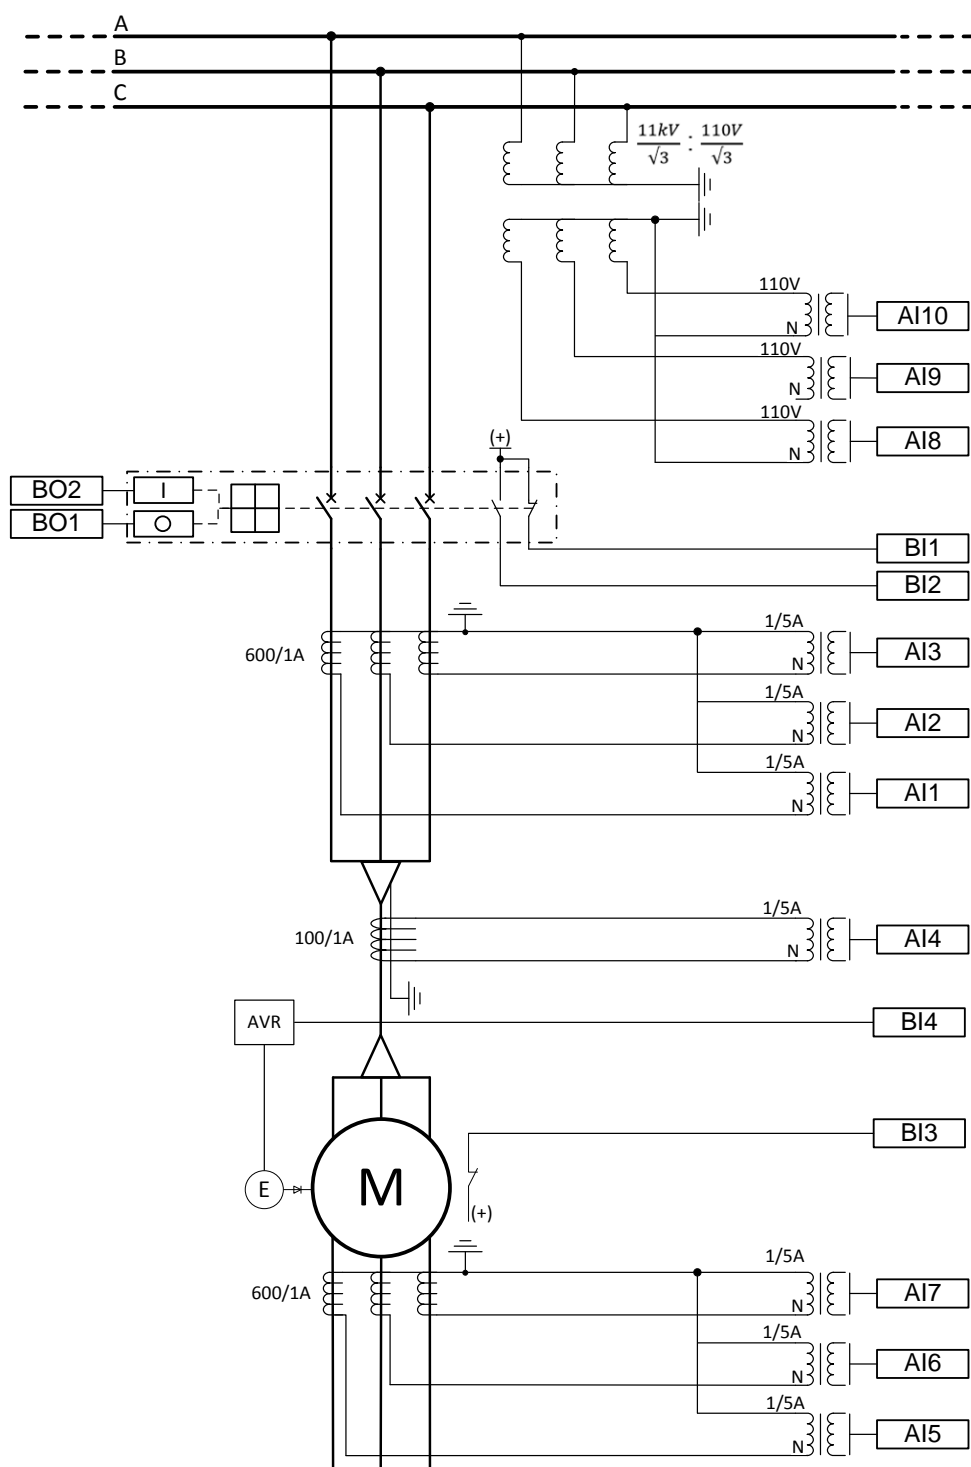

Figure 115: Relay interfaces and CT/VT connections for the example case
Figure 115 shows the connection details of the relay's analog inputs (AI), binary inputs (BI) and binary outputs (BO).